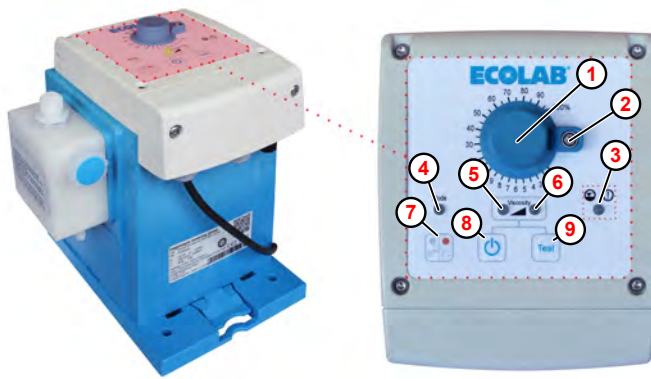

Fig. 15: On/off button of the 'EcoUp'
1. ➔ Use the On/Off button  ( Fig. 15 , ⑧ ) to switch the pump on and off.
Depending on the selected metering mode, either the left LED ( Fig. 15 , ⑤ , Viscosity low) or the right LED ( Fig. 15 , ⑥ , Viscosity high) lights up or flashes.
1. ➤ When the pump is switched on for the first time, the operating mode LED ( Fig. 15 , (4) ) is off. The pump starts running immediately after switching on, the LED operating status / metering mode (5) or (6) lights green.
2. ➤ Press the mode button (7) to switch to Pulse mode, the mode LED (4) lights orange. The pump is on standby and waiting for an incoming pulse; the operating status / metering mode LED (5) or (6) lights green.
3. ➤ Press the mode button again (7) to switch to Manual mode.